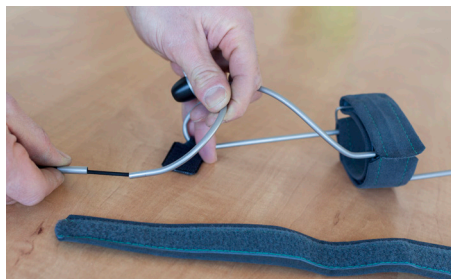

Figure 6: Shorten armorthosis.
2. When the arm frame is too long, the end extension at the elbow side can be removed to shorten the frame (figure 6). First pull out the elastic enough to make a new knot between the end extension and the rest of the frame. Then cut the elastic and remove the end extension. Melt the knot with a lighter to finish the ends. Finally reposition the strap using the spare Velcro hook part.